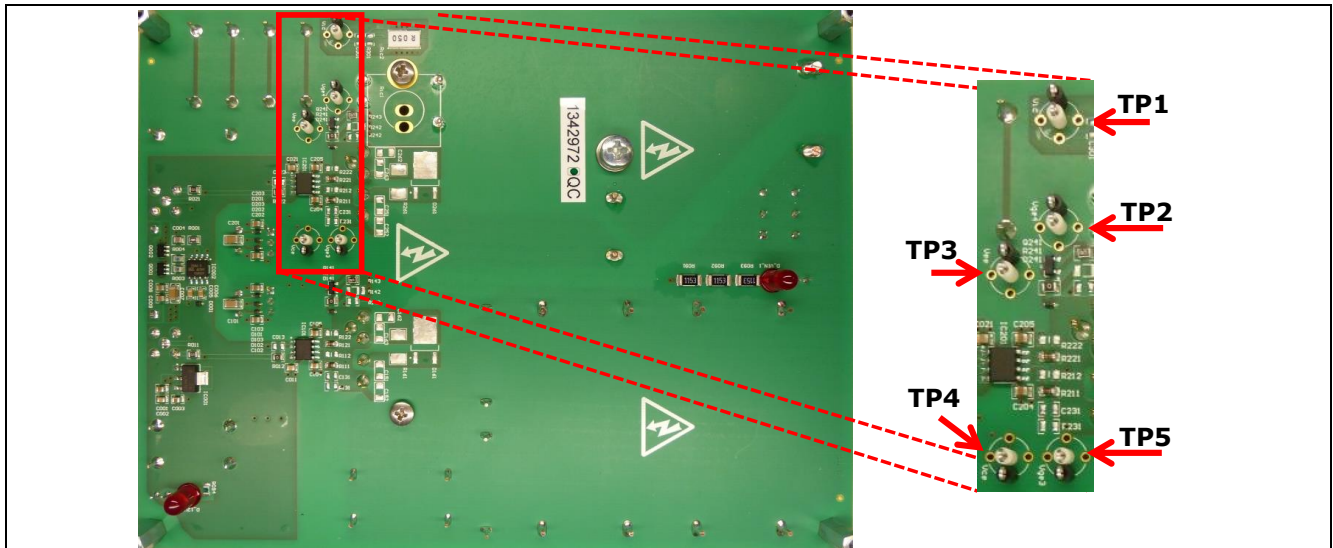
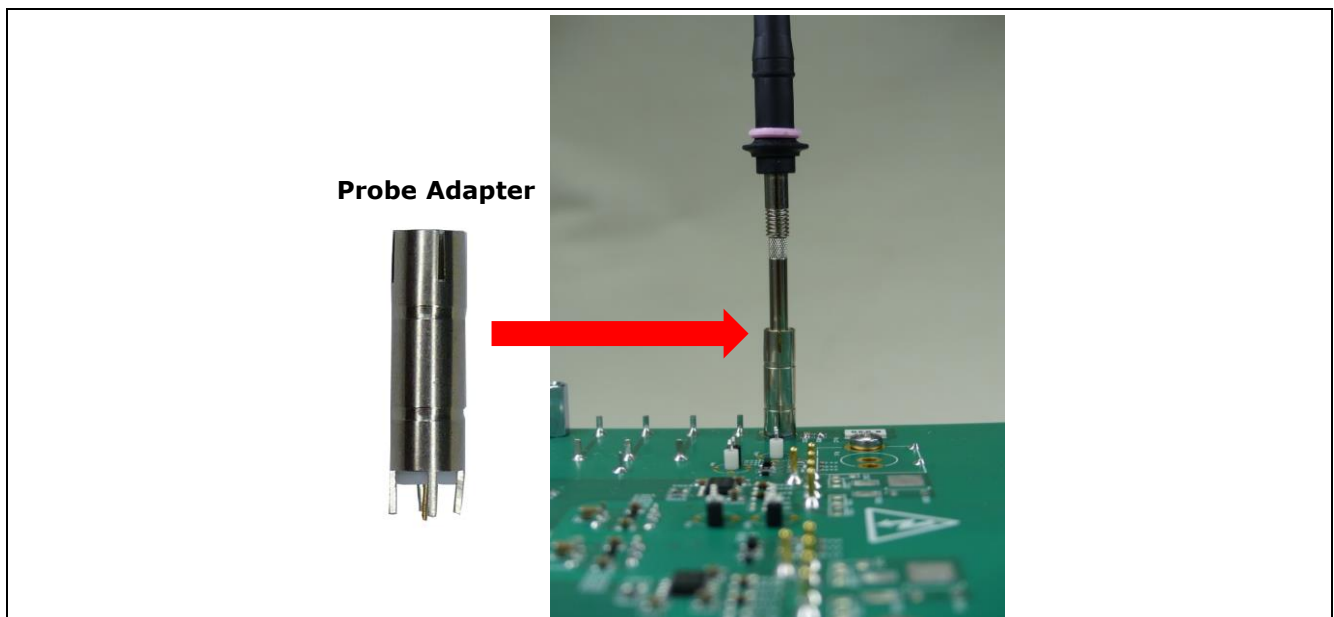

Figure 12 Detailed view of the test points on the back side of the Eval board
Figure 13 Probe adapter soldered on the Eval board
The most relevant signals of the Eval board are available for measurement through test points. In total, there are five test points, all located on the bottom side of the Eval board as can be seen in Figure 12.
For a correct sensing of the emitter current, it is recommended to use the probe adapter contained in the Eval board's case. This avoids oscillations and enables a more accurate measurement of the switching energy. This adapter shall be soldered on the test point **TP1**; please refer to Figure 12. Figure 13 shows how the oscilloscope probe shall be connected through the adapter.
6. Only for **Conf. 2**: Place the coaxial shunt as depicted in Figure 13. More details to be found in section 4.2